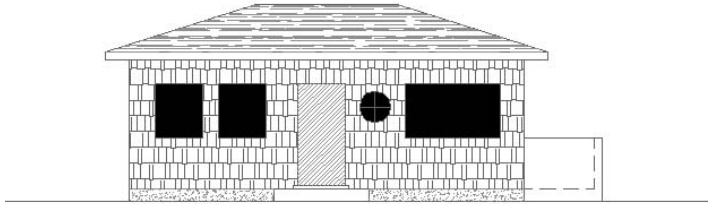

FIGURE 9.9: The windows with a solid fill hatch
4. Right-click, choose Preview, and then right-click again. The windows have a solid black (or white) fill (see Figure 9.9).